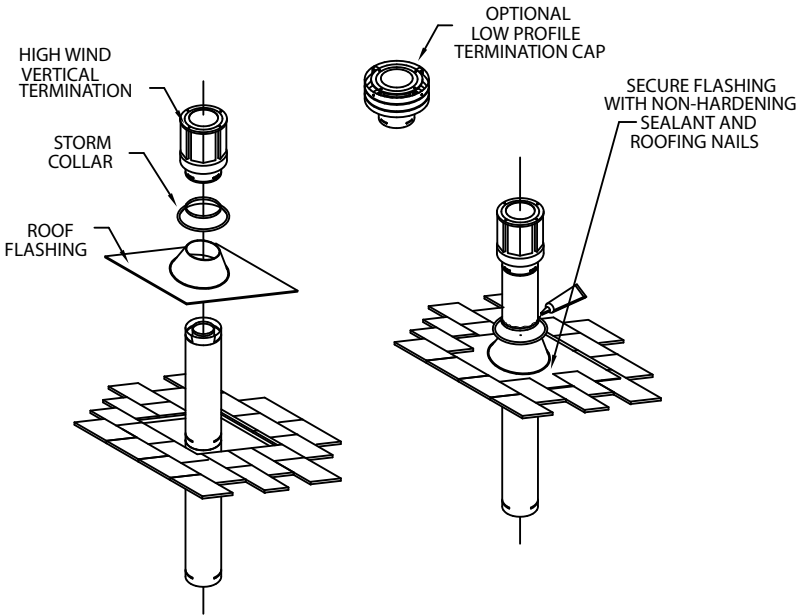

Figure 18
Secure the base of the Roof Flashing to the roof with roofing nails. Ensure the roofing material overlaps the top edge of the Roof Flashing (Fig. 18). Verify that you have at least the minimum clearance to combustibles at the roofline and in the attic.
Step 9. Slip the Storm Collar over the Pipe Section, and push it down to the top of the Roof Flashing (Fig. 18). Use non-hardening sealant between the Storm Collar and the Pipe Section.